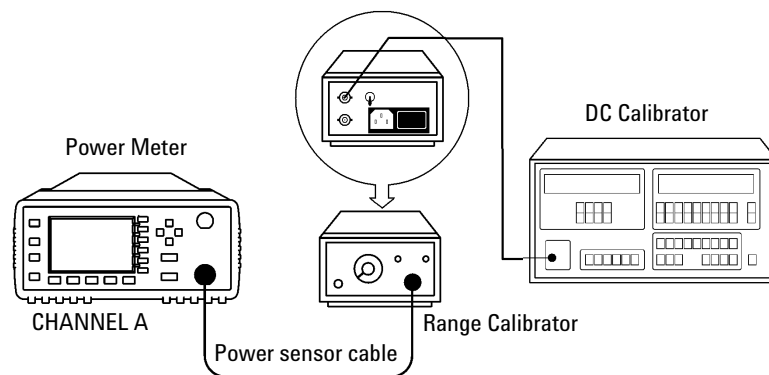

Figure 2-5 Instrument Accuracy (Average Path) Test Setup
- 1 Connect the equipment as shown in Figure 2-5.
- 3 Figure 2-5 shows the HI/LO outputs of the DC calibrator connected to the DC reference input of the range calibrator. Ensure that the Guard and LO output of the DC calibrator are floating, and are not connected to the earth ground.